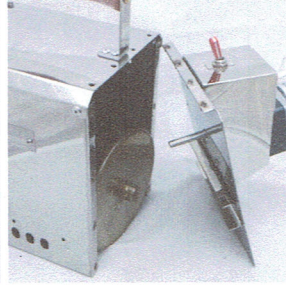

Figure 3
- c. Grasp the motor above the rear panel as shown in Figure 3, slowly pull it backward to remove it, and then remove the drum.